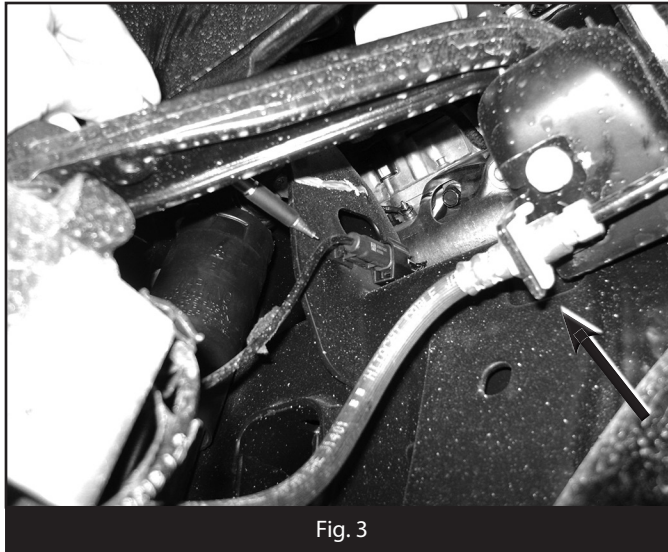

Fig. 3
6. Locate the factory brake line junction at the frame where the hardline and rubber line meet. (Fig 3) Using a 13mm line wrench disconnect the hardline from the rubber line. Remove the retaining clip and pull the line from the frame bracket. Place a bucket, etc under the hardline to catch any brake fluid drips.